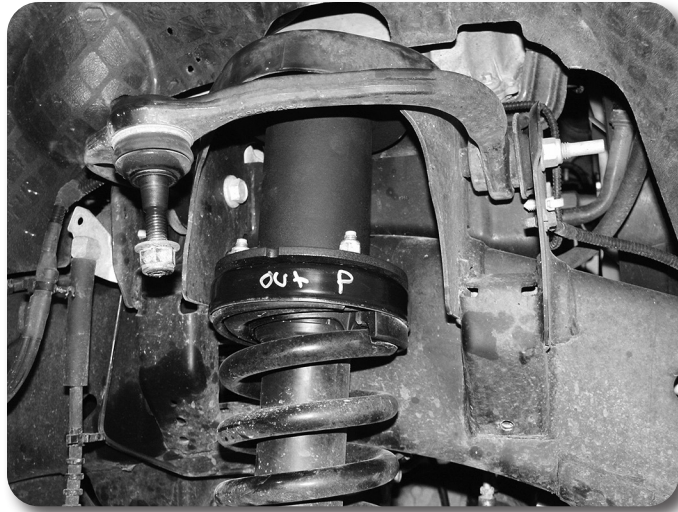

Figure 15
29. Install the strut and spacer assembly into the vehicle. Attach to upper mount with new 7/16" nuts and washers. Leave hardware loose at this time **Figure 15**.